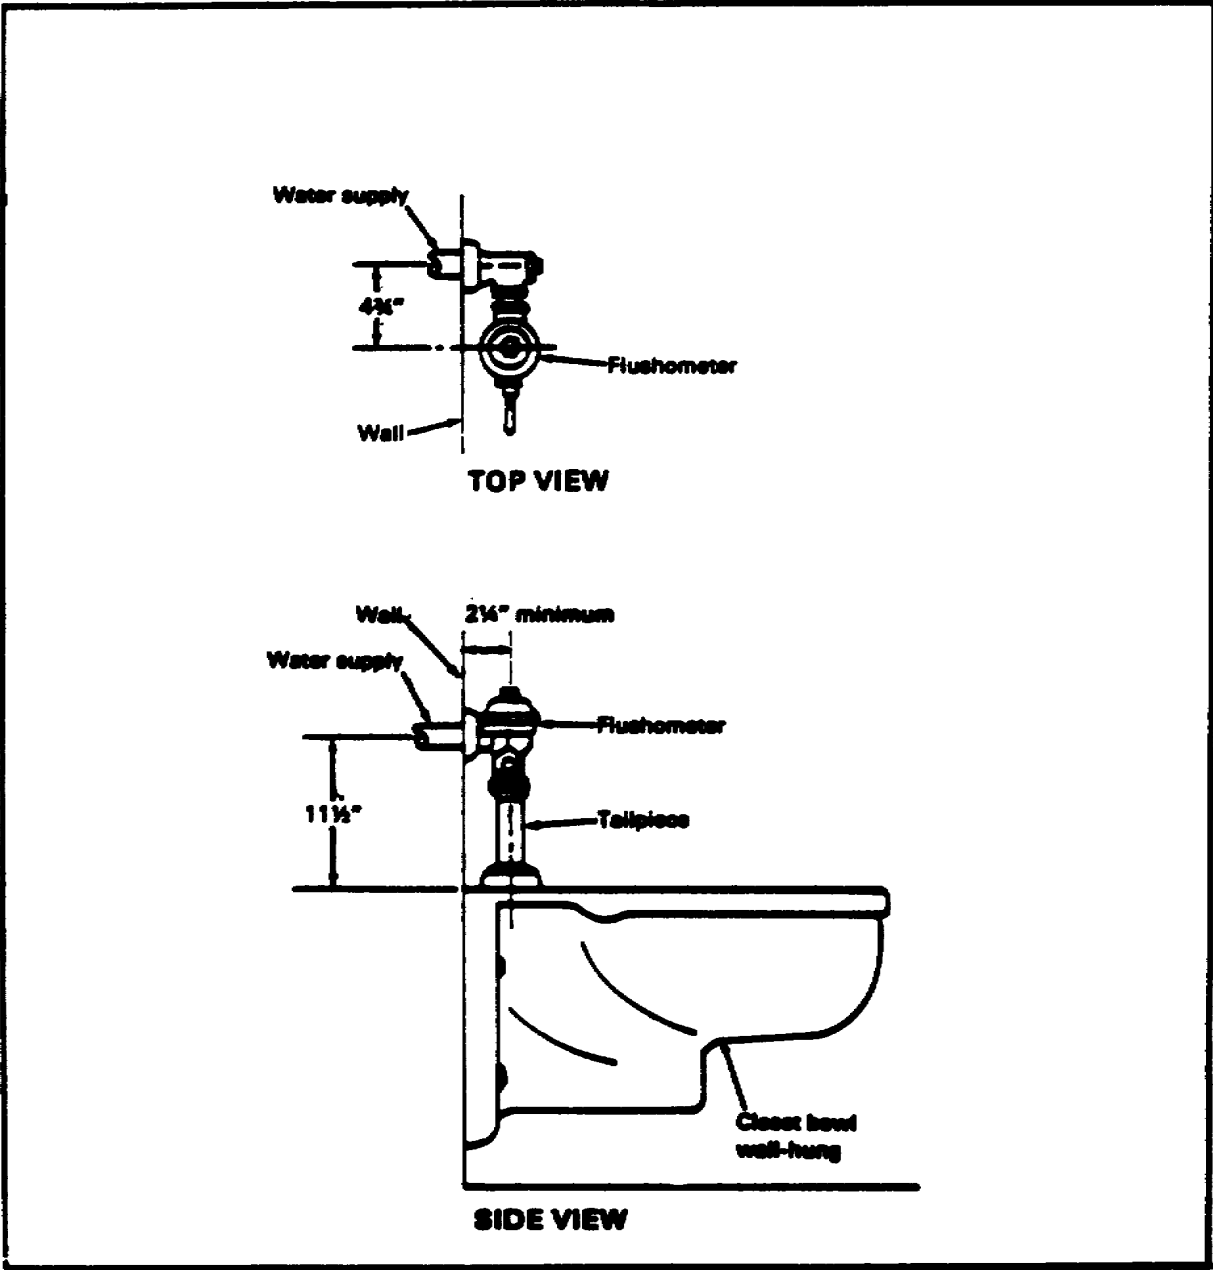

FIGURE 30. INSTALLING A FLUSHOMETER
*Installing a flushometer.* Use the manufacturer's rough-in dimensions and instructions to install a flushometer. Once installed, turn on water supply and adjust flushometer valve's water flow. The following illustrations are examples of manufacturer's rough-in dimensions and instructions (see Figure 30):